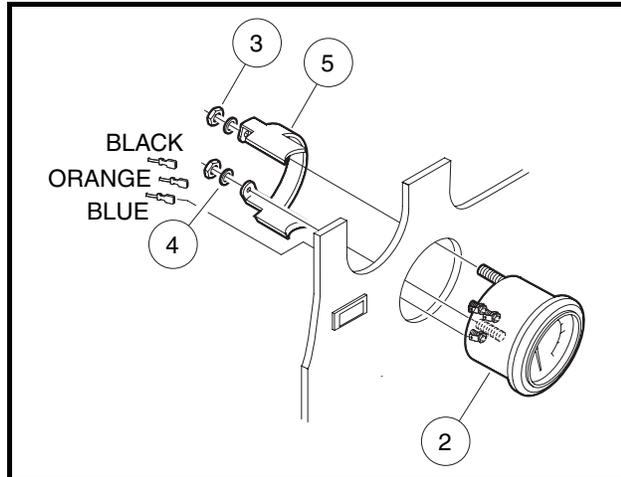

Figure 12-22 Fuel Gauge Installation
3. Disconnect the three wires from the fuel gauge (**Figure 12-22, Page 12-22**).
4. Remove the two hex nuts (3) and lock washers (4) from the threaded studs on the back of the gauge. Remove the mounting bracket (5) from the back side of the fuel gauge (2) and remove the fuel gauge from the instrument panel.
1. Install a new fuel gauge into hole in instrument panel until flange seats against panel (**Figure 12-22, Page 12-22**).
2. Slide the mounting bracket (5) onto the two threaded studs on the fuel gauge and secure with two lock washers (4) and two hex nuts (3). Tighten to 2.5 in-lb (0.28 N·m). Place one drop of Loctite™ on each hex nut. Do not allow Loctite to come into contact with the fuel gauge casing.
3. Connect the blue wire from the wire harness to the (I) terminal, the orange wire from the wire harness to the (S) terminal, and the black wire from the wire harness to the (G) terminal. **See Wiring Diagrams, Section 11, Page 11-6.**